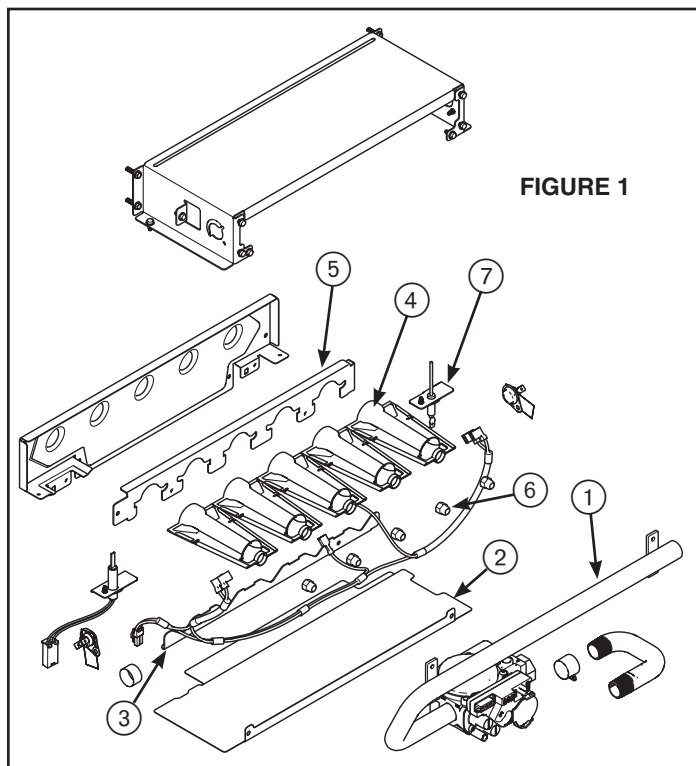

FIGURE 1
3. Remove screws and detach manifold pipe (item 1) from burner box. See Figure 1 for references.
4. Remove screws and detach burner plate (item 2) from burner box.